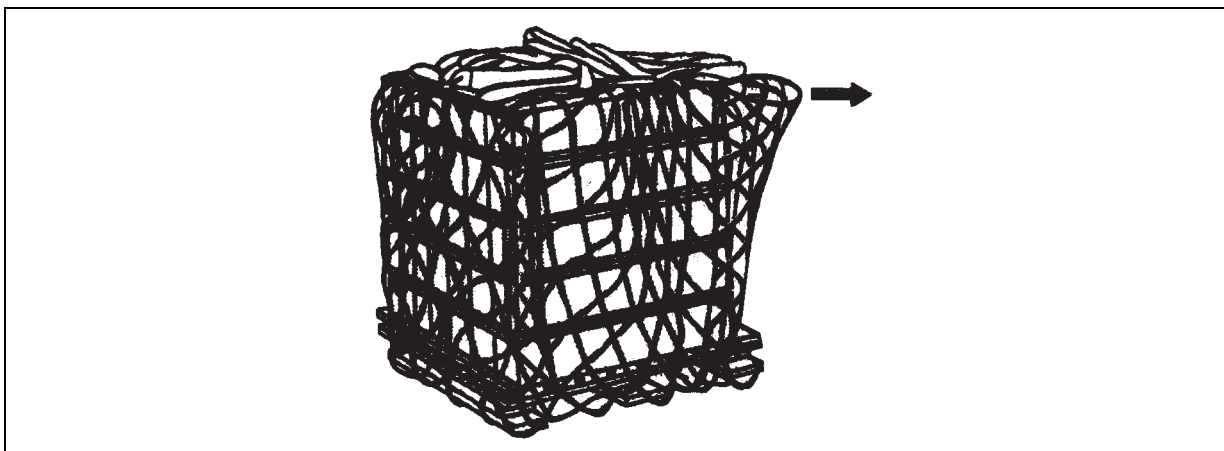

Figure 7-11. Excess Net Taped to Itself
- After you finish tying the legs and net on top of the load, pull the net outward at each corner, grasp the border cord from each side near the corner of the load, and tape them together to tighten the sides of the net. Take the excess netting at the corner and tape to the adjoining side. At each side, pull the net up as high as possible and tie it to itself (breakaway technique see cotton webbing, paragraph 8-9, page 8-20) to prevent it from snagging on the load and tearing the net (figure 7-11). Use only enough tape to hold the net in place on the load.